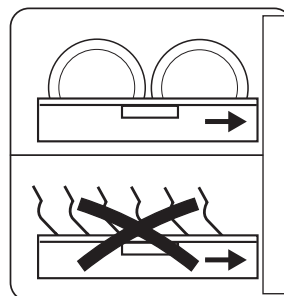
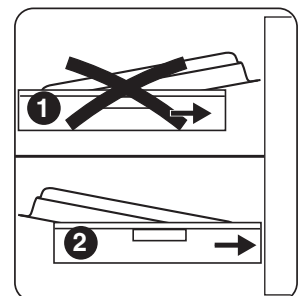

Figure 34 Positioning dishes
Figure 35 Positioning pans
- Arrange dishes and pans on the racks following the feed direction of the rack conveyor system (Figure 34 / Figure 35).
If pans are inserted as in point "1"- Figure 35, the curtains can catch lighter pans lifting them and causing a conveyor jam. While If pans are inserted as in point "2"- Figure 35, there is no risk of the curtains lifting the pans but it can cause cold water to transfer into the wash tank from the prewash on a 66" unit.